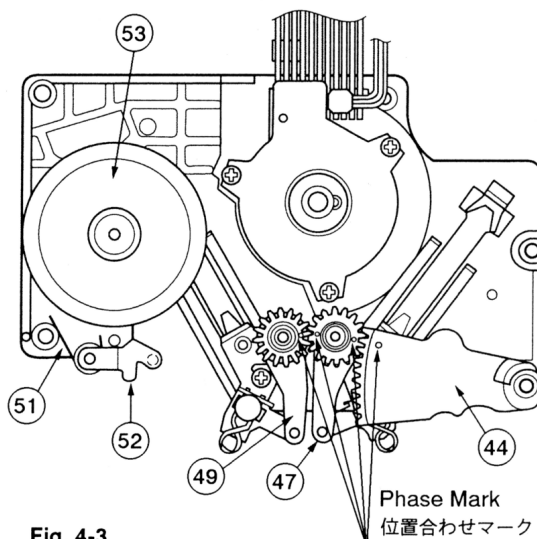

Fig. 4-3
• See that the phases of ④④, ④⑦, and ④⑨ are matched with each other, as shown in Fig. 4-3.
2. ③⑤ Sensor Block
• ④④, ④⑦, ④⑨ の位相は Fig. 4-3を参照。